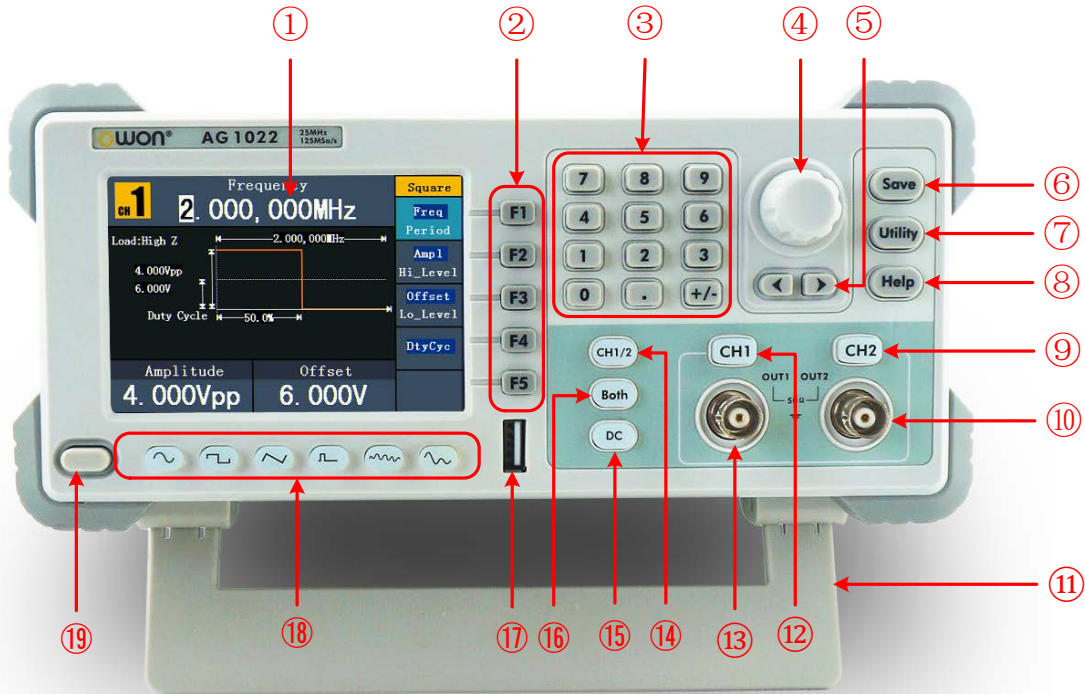

Figure 4-1 Front panel overview (AG1022 shown)
Unfold the foot stools on the bottom of the generator, as ⑪ in *Figure 4-1*.